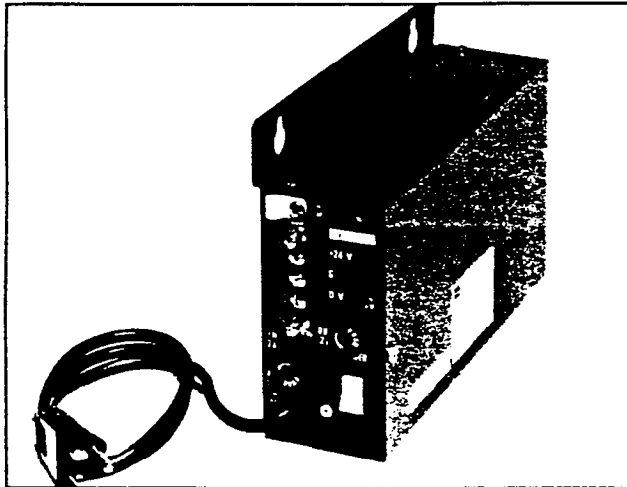

FIGURE 1—MPSA-512
01.01 The MPSA-512 power supply is permanently configured for wall mounting. Its design will not allow proper cooling if it is not mounted upright as shown in Figure 1.